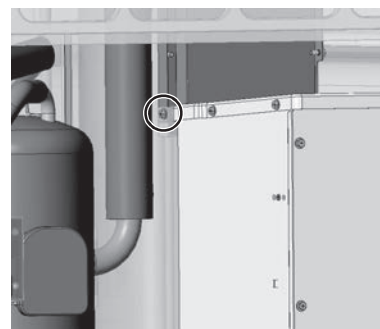

Figure 8
- (8) Remove the duct by unscrewing one screw. (See Figure 8.)